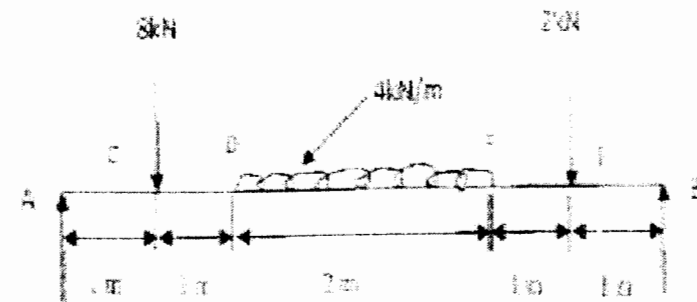

Fig 4
5. For the beam shown in fig.4 Draw the shear force and bending moment diagram.